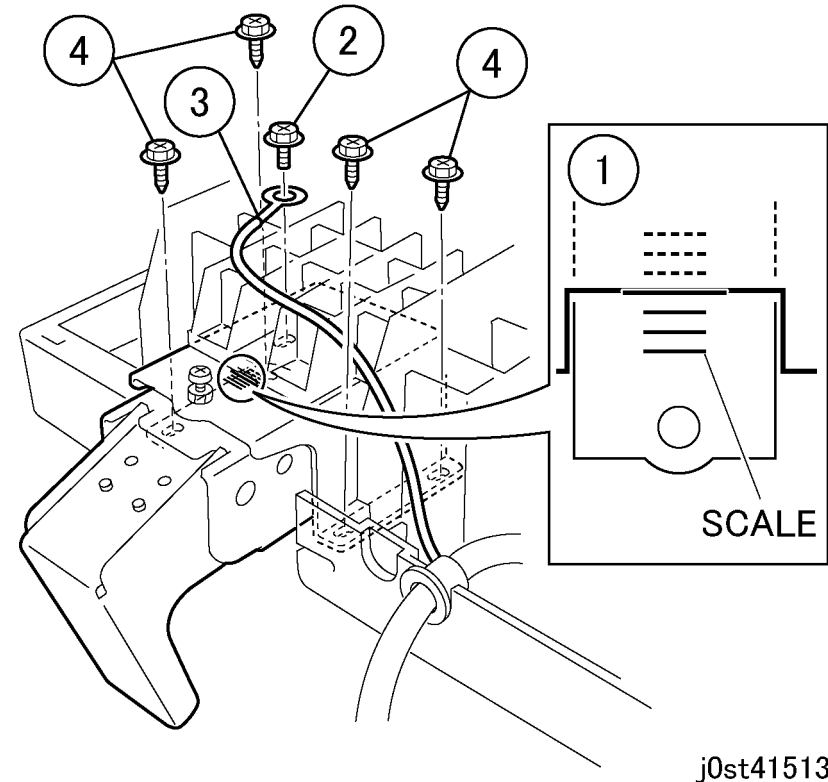

Figure 1 Unfastening the Right Counter Balance (j0st41513)
3. Remove the screw that secures the Right Counter Balance. (Figure 1)